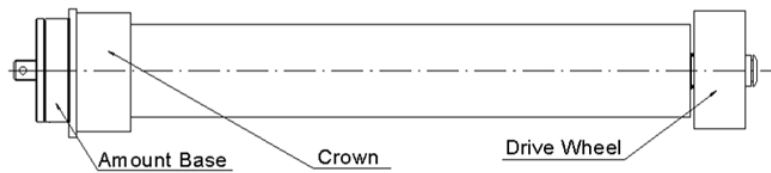

Fig.1
3. Product Scheme: Refer to Fig.1